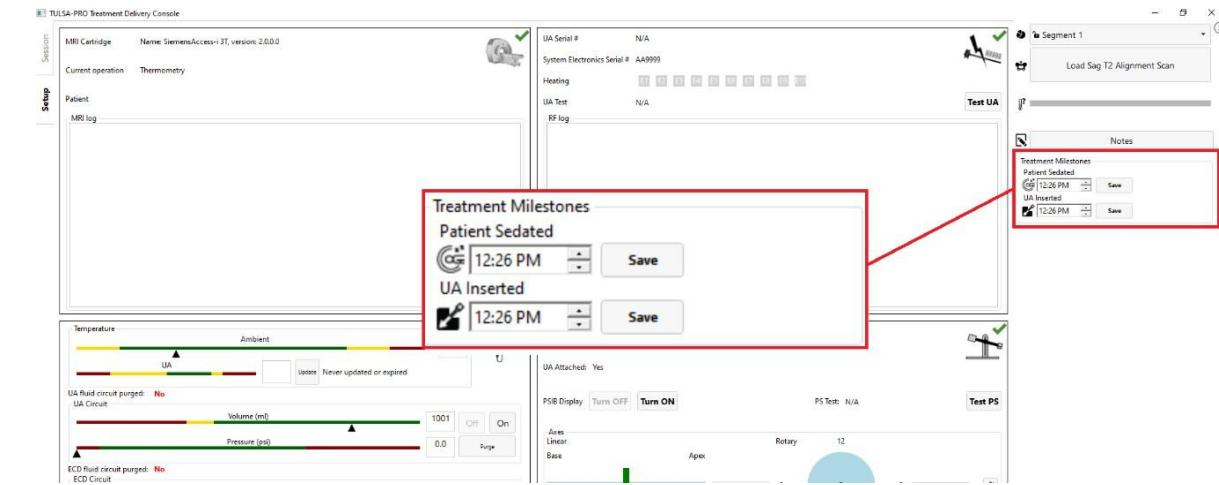

Figure 30: Entering Treatment Milestones in the TDC Setup Workspace
1. In the TDC Setup Workspace, enter the sedation and UA insertion times under **Treatment Milestones** (Figure 30).